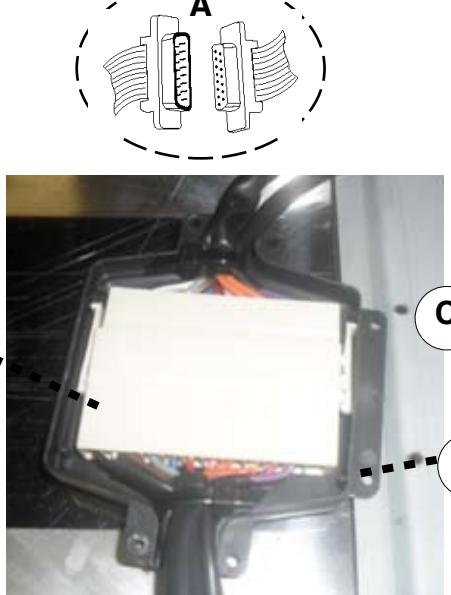

FIGURE 15
5. Connect the CONTROL CABLES together as indicated in **A** in **FIGURE 15**. Insert the connected CONTROL CABLES (**A** in **FIGURE 15**) into the black plastic CONNECTOR BOX (**B** in **FIGURE 15**) by connecting the two black plastic pieces using the four screws provided. Using the two longer screws provided, attach the assembled CONNECTOR BOX to the METAL FLANGE (**C** in **FIGURE 15**).